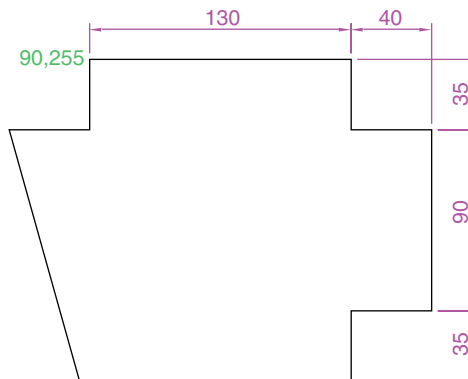

Fig. 2.17 First example – **Erase**.
1. With **Line** construct the outline in Fig. 2.17.